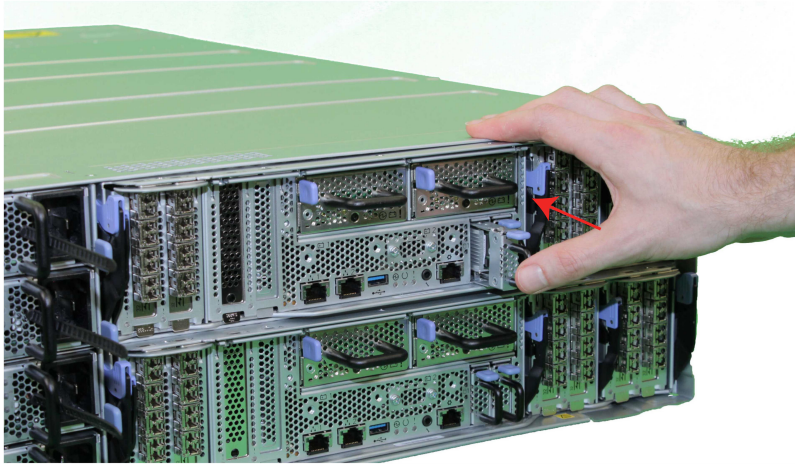

Figure 59. Inserting the boot drive
11. Slide the boot drive into the boot drive slot, and press in until the latch clicks in Figure 59 on page 99